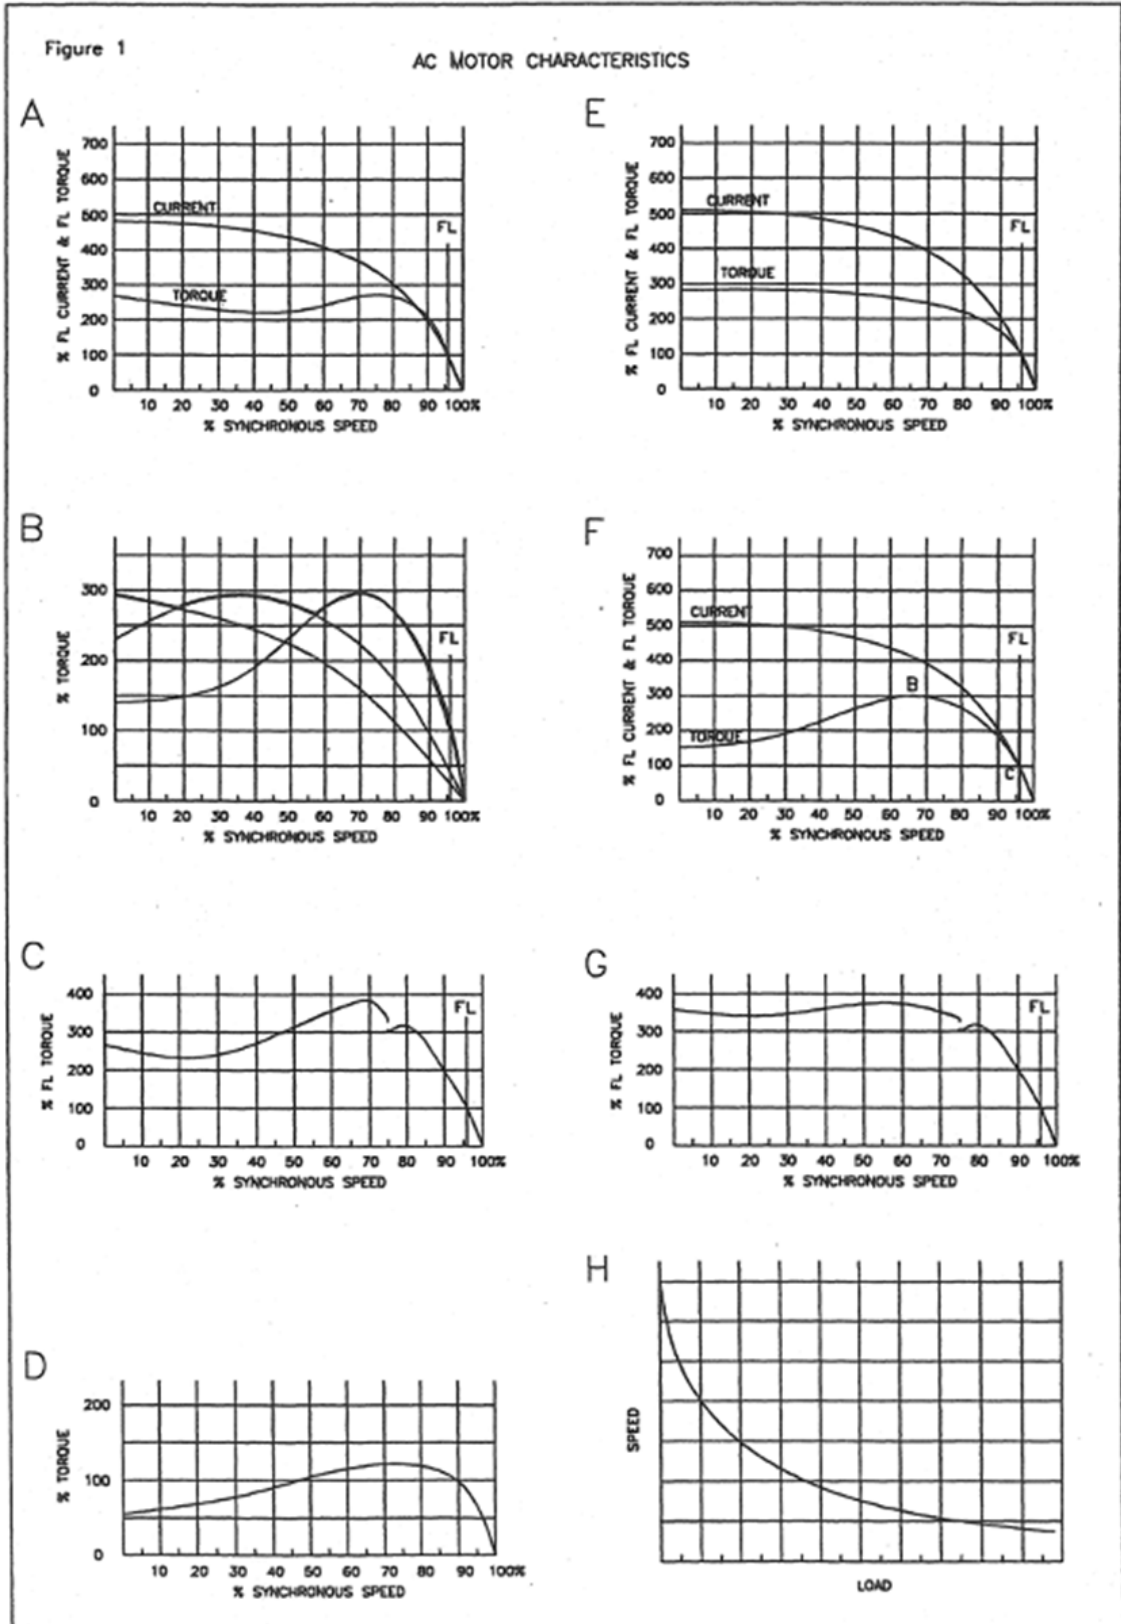

Figure 1 – Motor Characteristics
24. Refer to Figure 1. (on the following page) Which of the motor characteristic curves represents a typical standard three-phase induction motor?
25. Refer to Figure 1. (on the following page) Which of the motor characteristic curves represents a typical three-phase double cage induction motor?
26. Refer to Figure 1. (on the following page) Which of the motor characteristic curves represents a typical three-phase high resistance rotor induction motor?
27. Refer to Figure 1. (on the following page) Which of the motor characteristic curves represents a typical three-phase wound rotor induction motor?